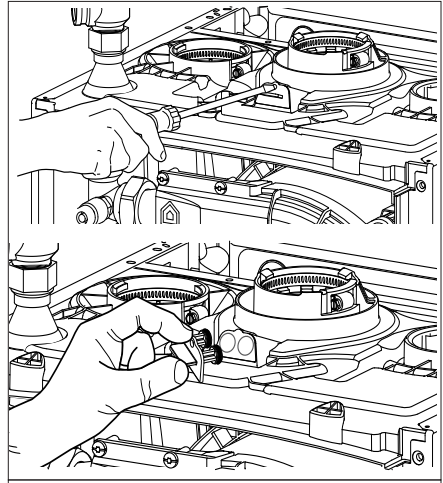

Figure 11 - Combustion Test Port
3. Reinstall the combustion test port. See Figure 11.